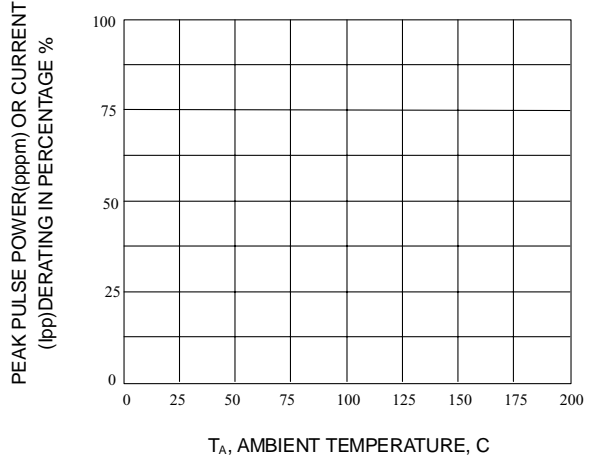
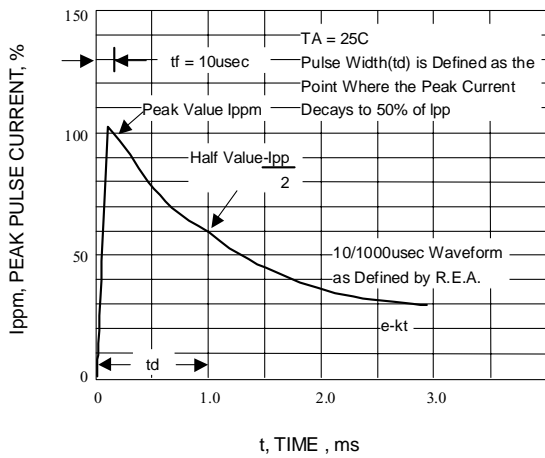

Fig. 2-PULSE DERATING CURVE
Fig. 3-PULSE WAVEFORM
2. Non-repetitive current pulse per Fig.3 and derated above $T_A=25^\circ\text{C}$ per Fig.2.